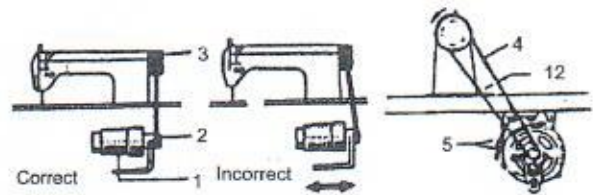

Figure 4
① The location of the knee-control block 1 ought to be adjusted in accordance with the operator's working condition to ensure convenience in operation.
② How to locate the adjuster 2: When adjuster 2 is aimed to control the movement of part 3 the knee component can be used to control the swaying of the needle. When the adjuster 2 is aimed to control the movement of part 4, the knee component can be used to control the upraising of presser foot.
##### (4) Installation of motor (see Figure 4)
① Turn the motor 1 from side to side in a bid to ensure the driving wheel of the sewing machine 3 being in line with the pulley of the motor 2.
② How to regulate the running direction: Viewed from the outside of the driving wheel, the running direction should be counter-clockwise. Make sure that the turning of the motor should be in uniform and regular direction which can be regulated by the power plug on the motor with change of 180°.
Release the Nut 5, and turn the motor so that the Belt tension can be regulated. If press down the belt with your fingers and bend it over to 12-20 mm as shown in Figure 4, the tension is considered as ideal one.